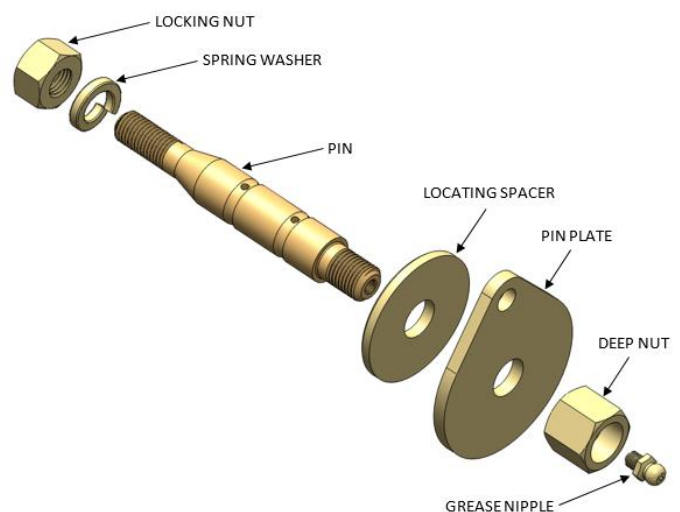
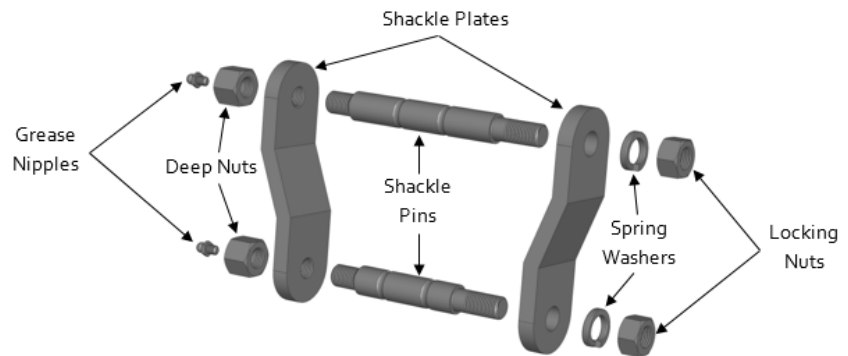

Figure 1: Diagram of fixed pin
Figure 3: Diagram of rear swing shackle
- Screw the grease nipples into ends of the fixed pins and firmly tighten (see figure 1). **DO NOT** over tighten grease nipple as this will damage the thread;
- Place the locating spacer (chamfer faces vehicle) and pin plate on the pin as per figure 1;
- Screw and lightly tighten the deep nut on the pin (figure 1);
- Screw and tighten the shackle pins into the threaded holes in the shackle plates as per figure 3;
- Over the grease nipples, screw the deep nuts and only lightly finger tighten (figure 3);
- Re-install leaf springs as per factory service manual with new SuperPro swing shackle and fixed pin hardware and assemble as per figure 1 and figure 3 – do not fully tighten nuts;